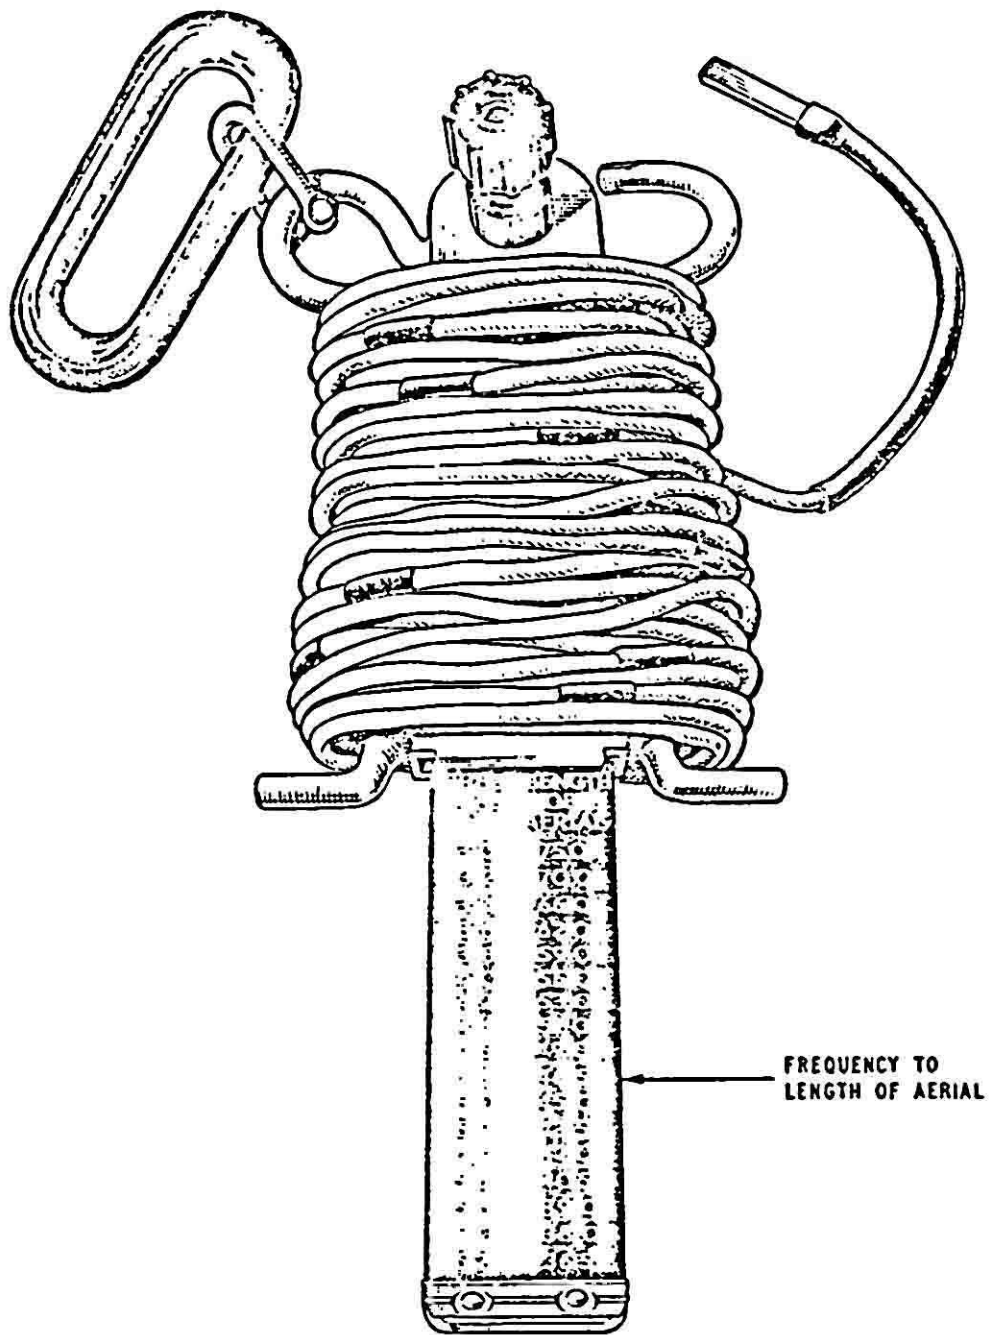

FIG. 3 AERIAL ELEMENT, DIPOLE, 75 FEET
- 2.2 Pull out the "Frequency/Aerial Length" chart from one of the Aerial Elements, Dipole, 75-ft. and look up the length of aerial required for the ordered frequency. For example, if the ordered frequency is 3.6 Mc/s then the number opposite this frequency on the chart will be 62 (see fig. 3).